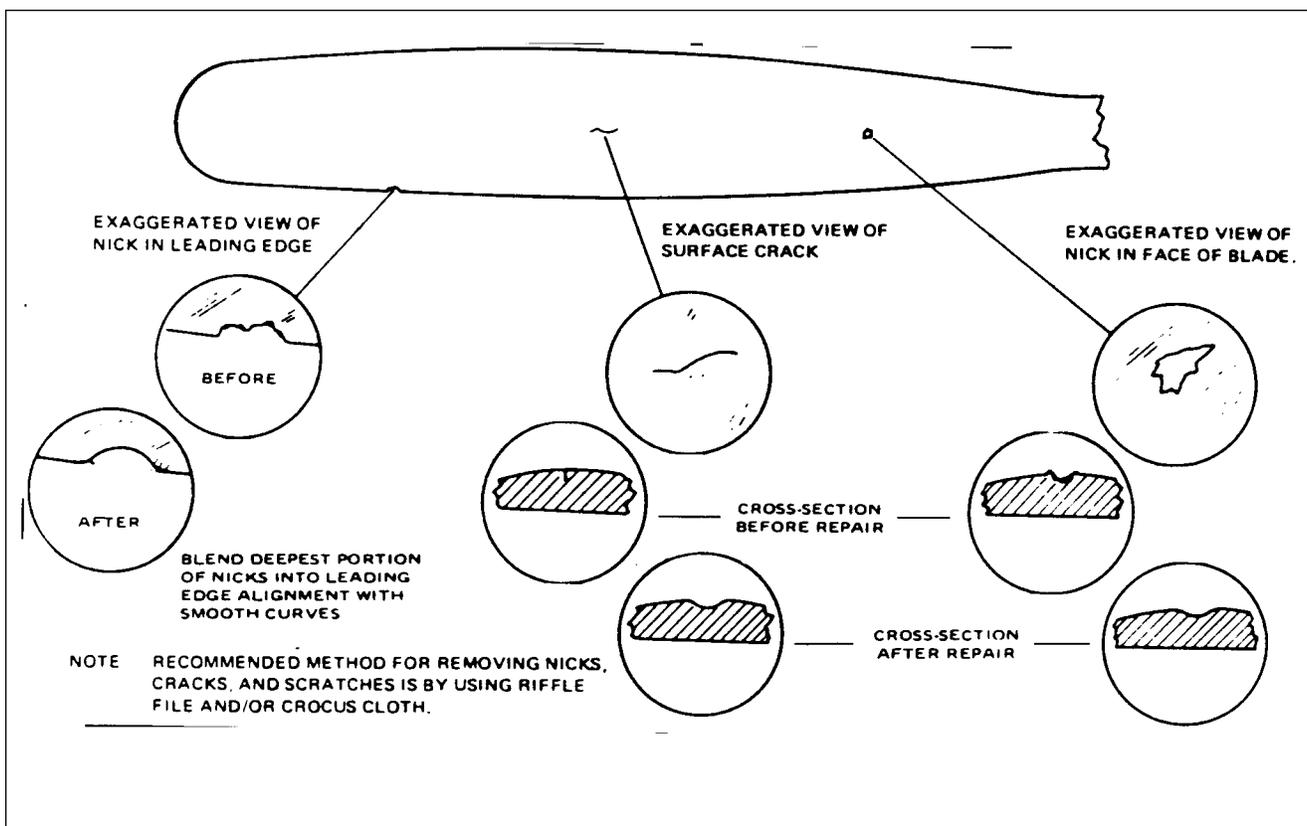

Figure 61-1. Typical Nicks and Removal Method
**CLEANING, INSPECTION, AND REPAIR OF PROPELLER** (figure 61-1)
- b. Use fine emery cloth for finishing. (Refer to figure 61-1 for propeller blade care.)